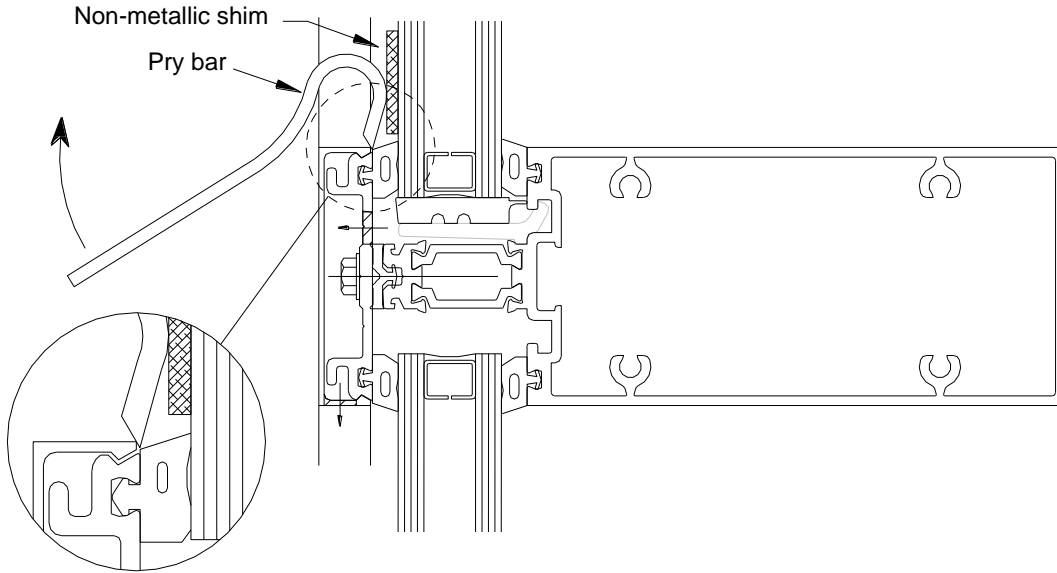

Figure 34: Deglazing
- 13.1 Reglazing must be done from the exterior. Carefully remove face covers surrounding the lite of glass to be deglazed. **See FIGURE 34.**